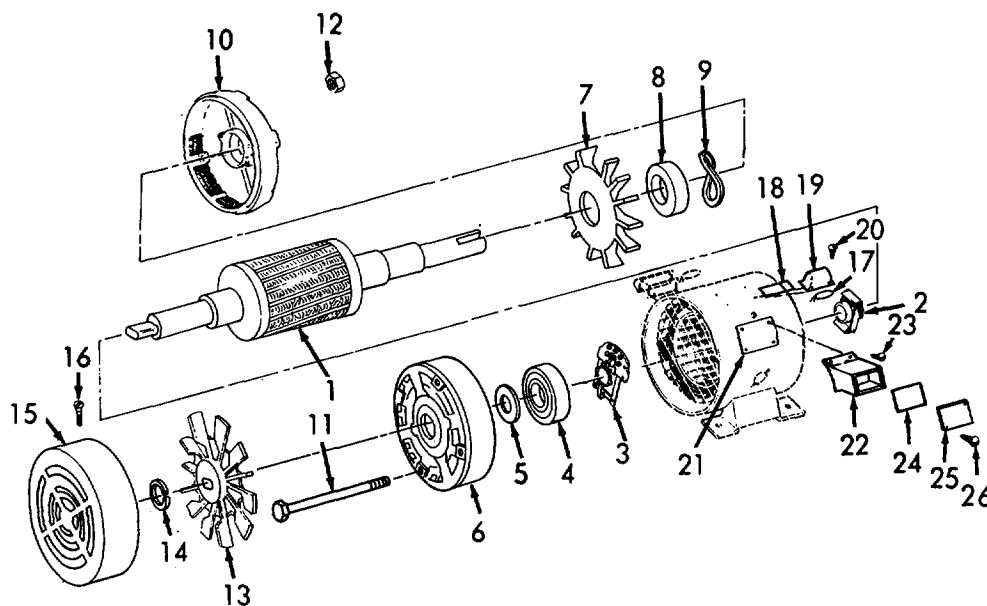

Figure 4-5. Electric Motor, Assembly.
e. Assembly. (Refer to Figure 4-5).